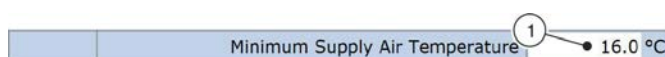

Fig. 54: Setting the minimum supply air temperature
3. ▶ Enter the minimum supply air temperature (Fig. 54 /1).